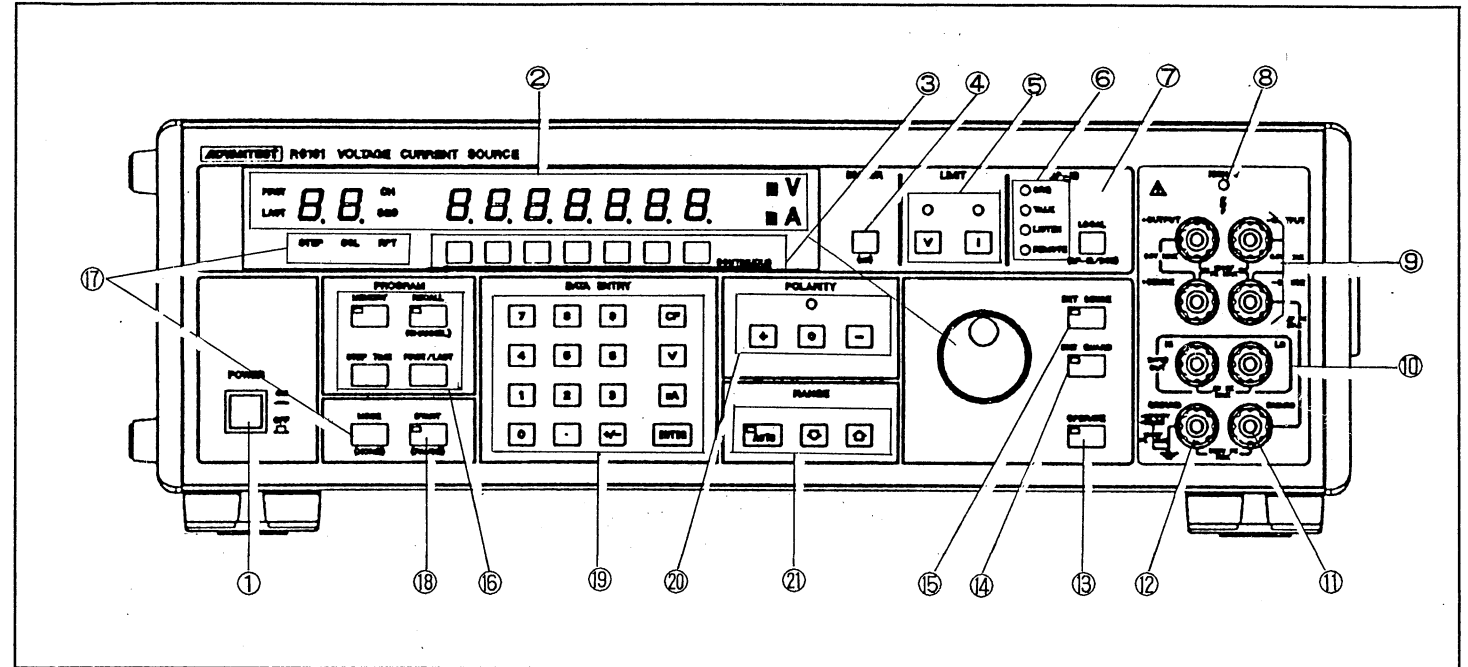

Figure 2-2 Explanation of the Front Panel
The Generator front panel also has the GROUND terminal of the binding post (see ⑫ of Figure 2-2). However, you must use the rear-panel GND terminal for frame grounding.
④ Connector for AC power supply